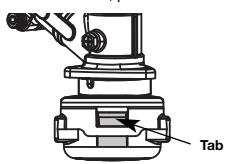

Fig. 20
- Firmly press in on the tabs that are on each side of the cutting head. (Fig. 20)